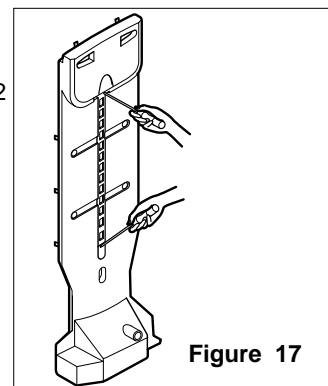

Figure 17
1. Remove the upper and lower Caps by using a flat screwdriver, and remove 2 screws. (Figure 17)